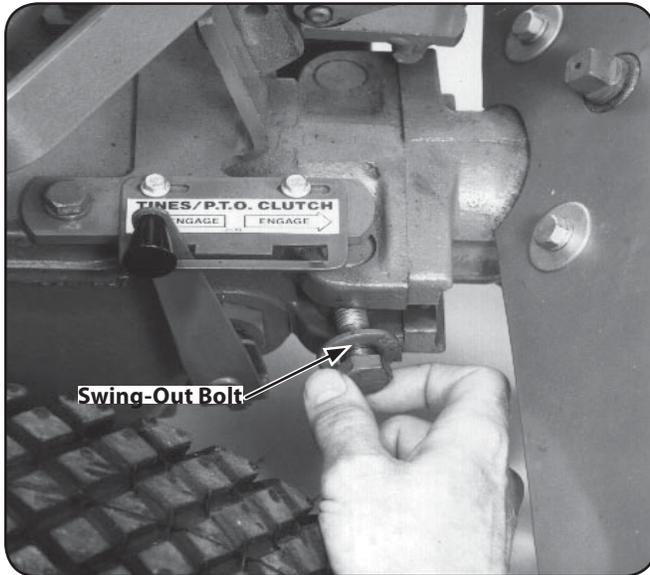

Figure 4-21
- Then move the swing-out bolts out. See Fig. 4-21.